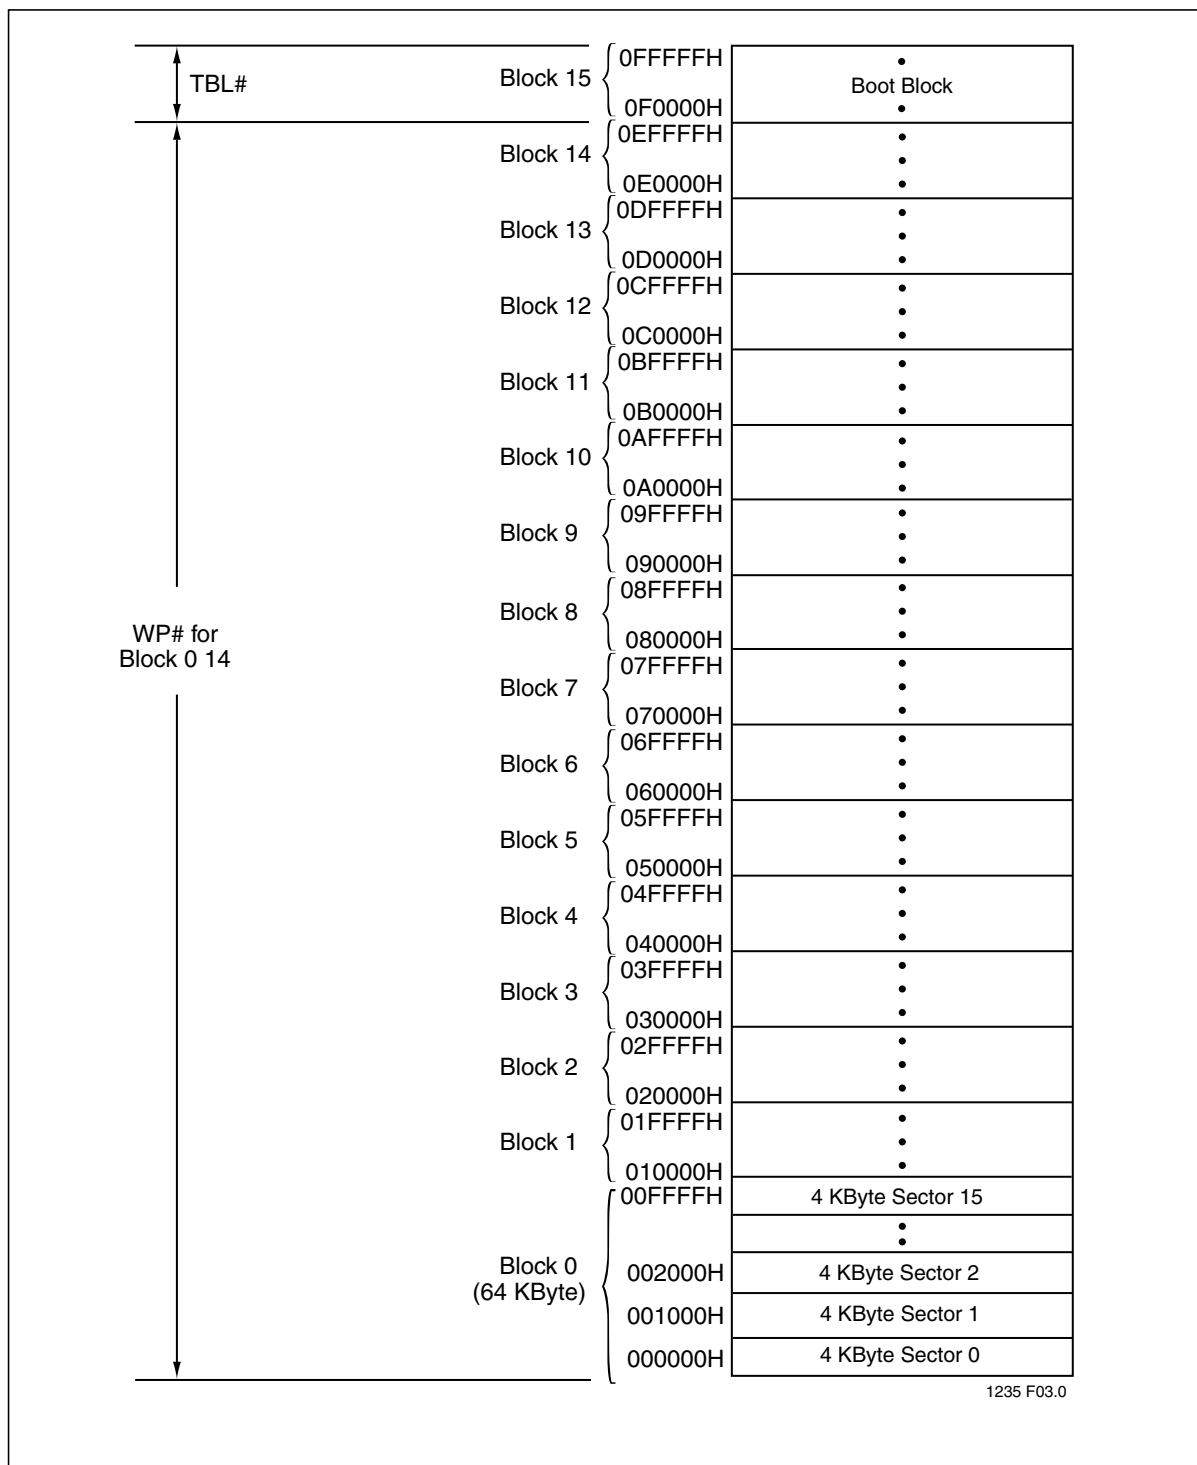

Figure 4: Device Memory Map
The SST49LF080A flash memory devices can operate in two distinct interface modes: the LPC mode and the Parallel Programming (PP) mode. The mode pin is used to set the interface mode selection. If the mode pin is set to logic High, the device is in PP mode. If the mode pin is set Low, the device is in the LPC mode. The mode selection pin must be configured prior to device operation. The mode pin is internally pulled down if the pin is left unconnected. In LPC mode, the device is configured to its host using standard LPC interface protocol. Communication between Host and the SST49LF080A occurs via the 4-bit I/O communication signals, LAD [3:0] and LFRAME#. In PP mode, the device is programmed via an 11-bit address and an 8-bit data I/O parallel signals. The address inputs are multiplexed in row and column selected by control signal R/C# pin. The row addresses are mapped to the lower internal addresses (A_{10-0}), and the column addresses are mapped to the higher internal addresses (A_{MS-11}). See Figure 4, the Device Memory Map, for address assignments.